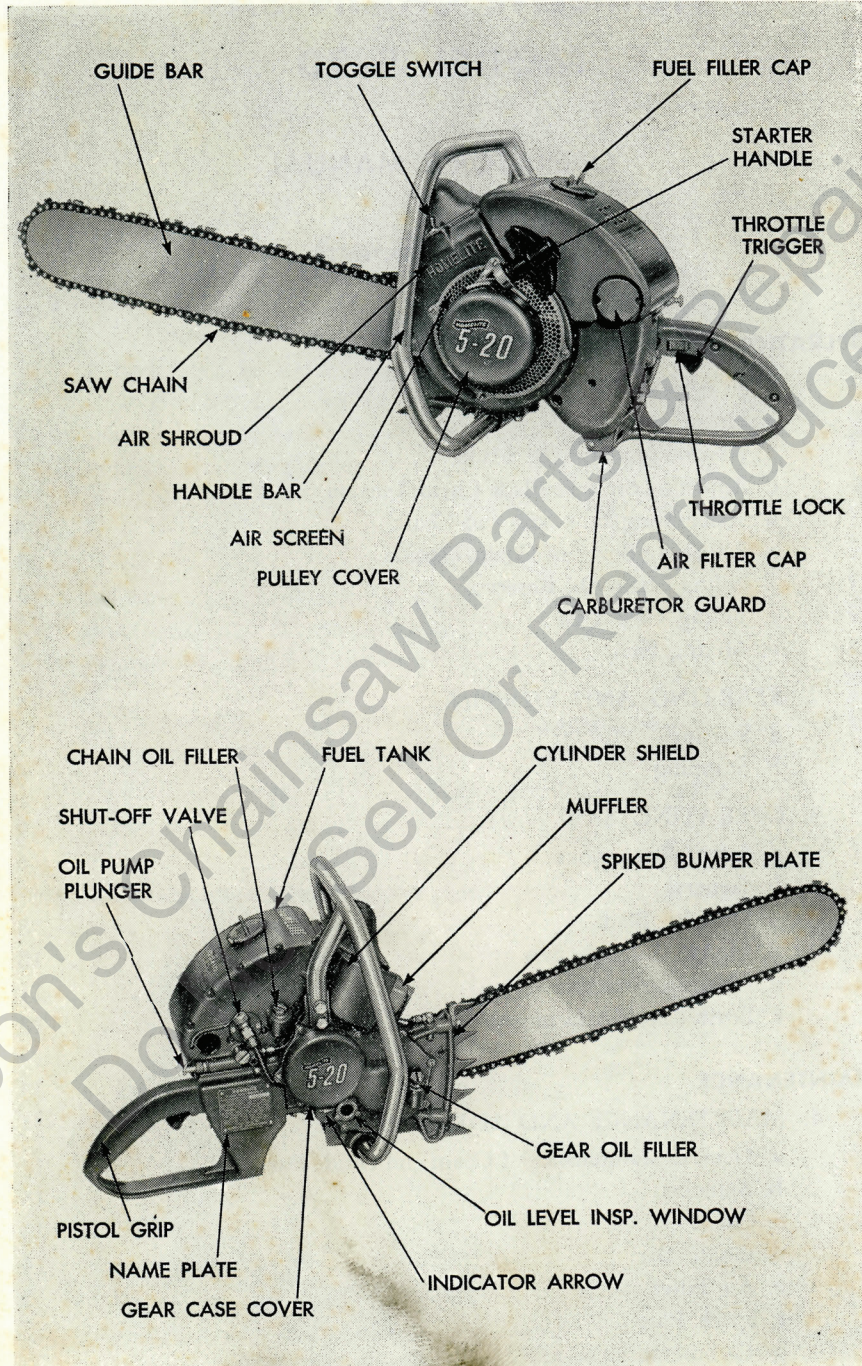

Figure 1—Homelite Model 5-20 Chain Saw
(1) The engine gear case has been drained for shipment. The engine carton contains a can of gear oil for filling the gear case, and a combination assembly tool. The chain and guide bar have been packaged separately.
(2) When you mail in your guarantee card, HOMELITE registers the serial number of the saw in your name and the guarantee goes into effect. The serial number is stamped on the name plate (See figure 1, *bottom*) of your unit. When ordering parts, always give both model and serial number of the saw, so there will be no delay in filling your order.
a. Starting (see figure 1)
- (1) Push toggle switch to "ON" position.
- (2) Open the fuel shut-off valve all the way (counterclockwise).
- (3) Pull the choke lever, located on the left side of the carburetor, back as far as it will go.
- (4) Depress the throttle trigger in pistol grip. (See figure 1.) Lock throttle open by pulling back throttle lock located on the left side of the pistol grip. Operate oil pump plunger three times to lubricate chain.
- (5) Be sure the chain is clear of all obstructions before pulling the starter,